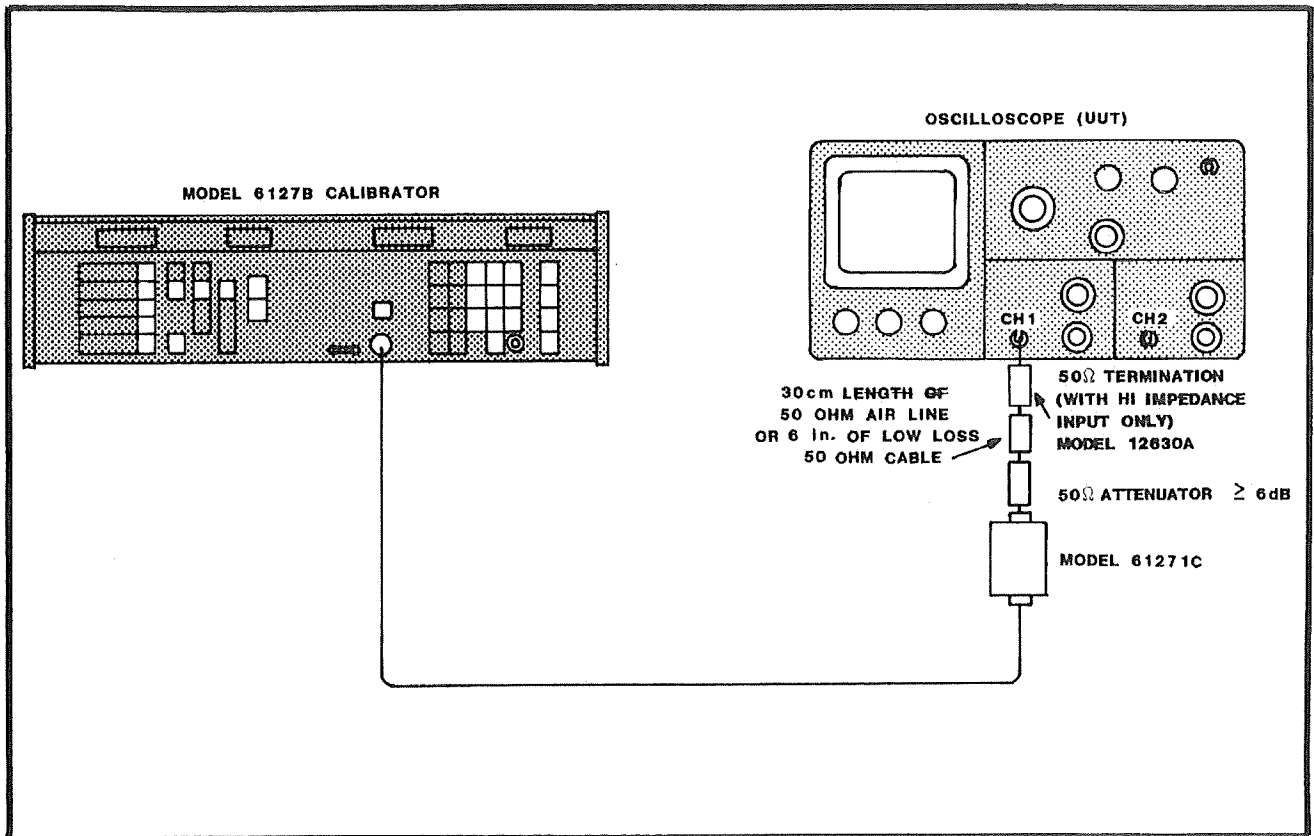

Figure 3-21. Fast Rise Pulse Checks, Equipment Set-Up
a. Connect the Model 6127B Head to the input of the UUT vertical amplifier. (Refer to figure 3-21 for test equipment set-up.) The 50 ohm termination is automatically switched in to properly terminate the FAST RISE PULSE generator. When the UUT has a 50 ohm input, touch the 50Ω LOAD key pad which will disconnect the internal 50Ω termination in the 61271C.